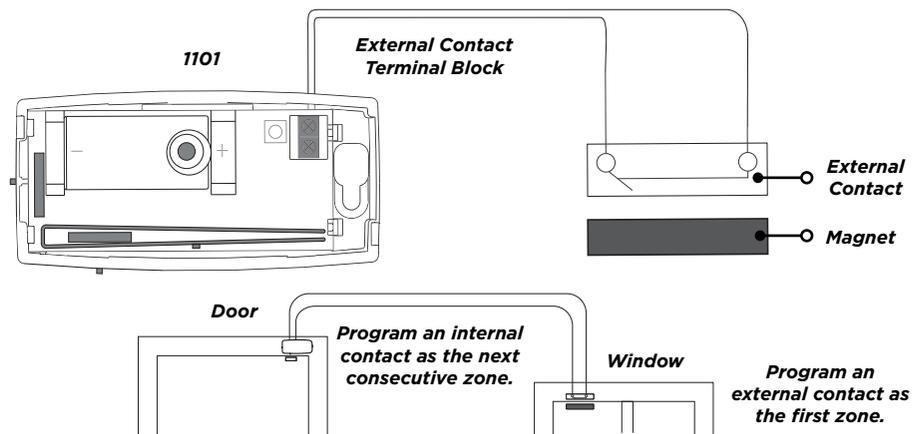

Figure 6: Connect External Contact
**⚡ Caution:** Do not use twisted pair or shielded wire. Refer to Figure 6 when wiring external contacts.